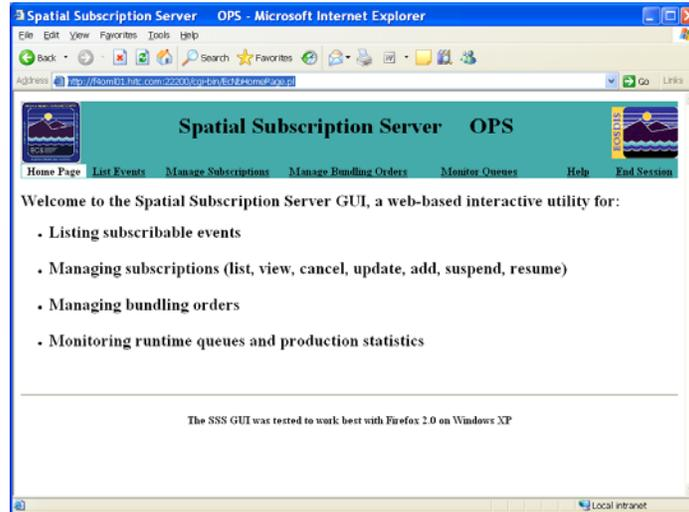

Figure 16.1-1. Spatial Subscription Server GUI Home Page
- The **NBSRV Home Page** is displayed (see Figure 16.1-1).